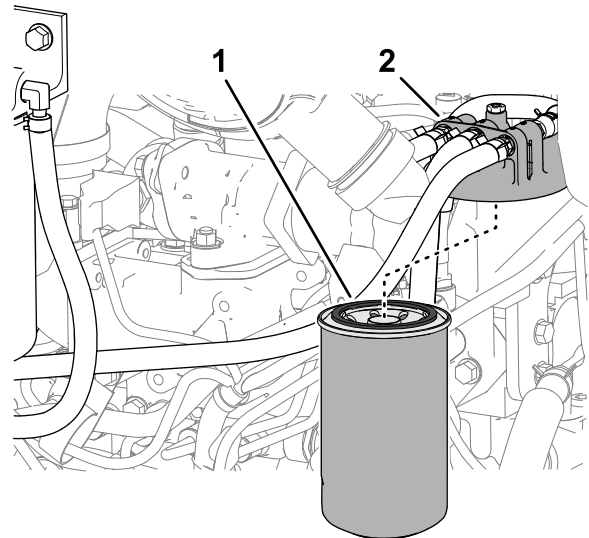

Figure 130
3. Clean the area around the fuel-filter head (Figure 130).
4. Remove the filter and clean the filter-head mounting surface (Figure 130).